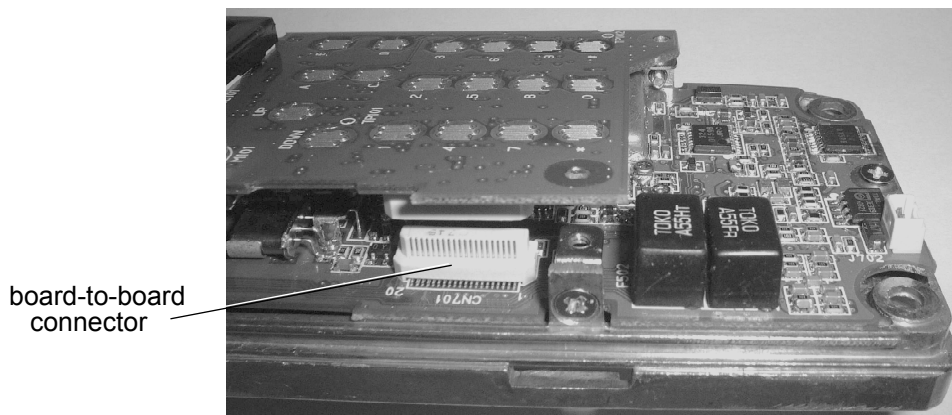

Figure 2-7
2. Connect the control board to the RF board by pressing it firmly downwards at the board-to-board connector (see “Figure 2-7”).